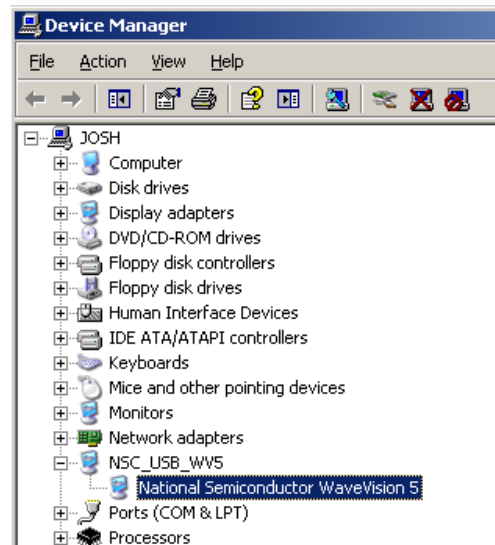

Figure 14: Verifying driver installation
- After installation is confirmed, verify that the driver is correctly installed using the Device Manager. The device should register under the NSC_USB_WV5 class as indicated in Figure 14.